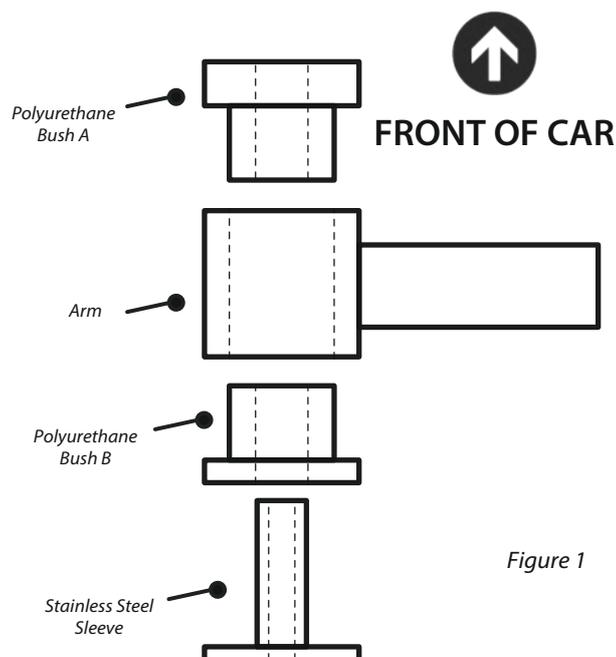

Figure 1
4. Apply some of the supplied grease to the bore and end faces of the bush and insert the Stainless Steel Sleeve into the bore of the Polyurethane bushes, ensuring the knurled face of the Stainless Steel Sleeve is facing the front of the car. Please refer to Figure 1 for orientation.